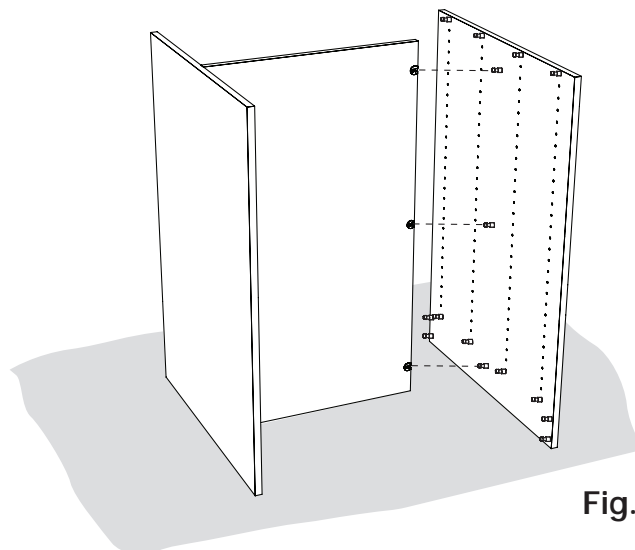

Fig. 4
3. Stand side panel/divider assembly upright. Bring other side panel in so that screw-in studs on side panel fit into cam locks on divider. (See Fig. 4.) Use a Phillips screwdriver to tighten cams.